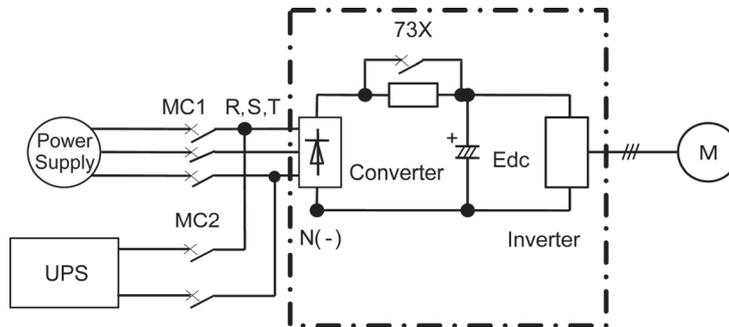

Figure 5.3-5 Connection diagram example
- (1) Terminal function **BATRY/UPS** (data = 59) can be assigned to any digital input terminal.
- (2) As shown in Figure 5.3-5, voltage is supplied from the UPS to the main circuit (L1/R-L3/T or L2/S-L3/T).
- (3) Required voltage level will differ depending on the operation speed and load.
- (4) The terminal that **BATRY/UPS** (data = 59) is assigned has to be turned on simultaneously with the MC2.